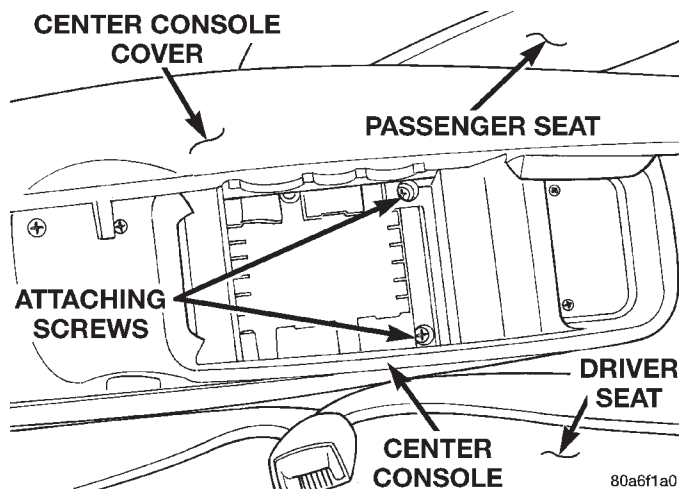

Fig. 135 Center Console Rear Attaching Screws
(1) Remove the 2 screws (Fig. 135) attaching rear of center console assembly to console bracket.